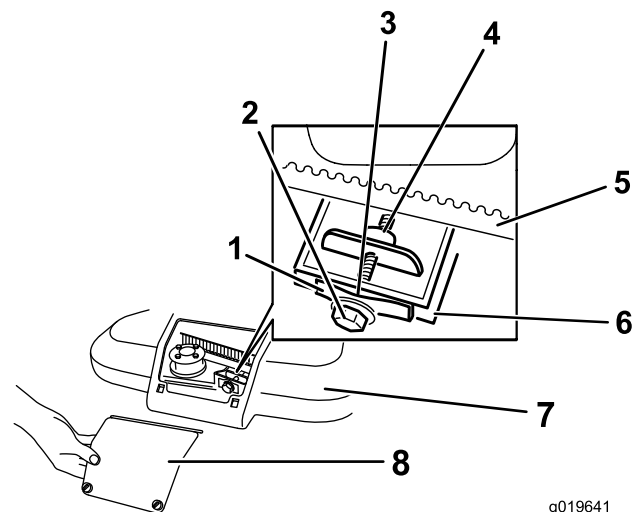

Figure 34
1. Loosen the 2 screws on the belt-cover-access panel and remove the panel (Figure 34).
Note: If there is a visible gap between the gauge and the spring, tighten the adjusting bolt and the nut until the feeler gauge barely slides freely in and out of the gap (Figure 34).